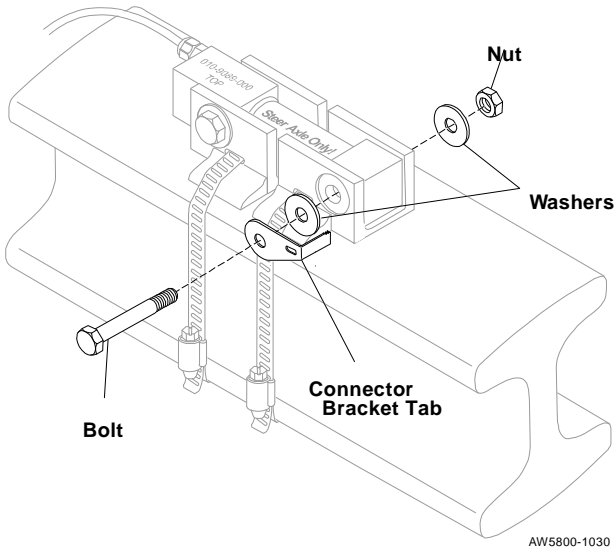

Figure 13. Installing the Connect Bracket
7. Ensure tongue and tab extends around the end of the sensor. See Figure 13. Place a hex nut (p/n: 132-0014-000) on each bolt and hand tighten.
1. Slide the connector assembly onto the connector bracket tab mounted on the deflection sensor bracket, by inserting the tab into the grooves on the bottom side of the connector receptacle. See Figure 13. Ensure the connector assembly slides completely on the mounting tab.